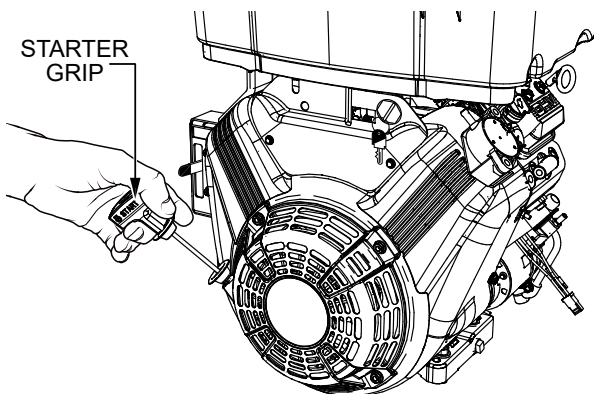

**Figure 17. Ignition Key (START)**
5. Insert the engine ignition key (Figure 17) into the ignition switch. Turn the ignition key to the **START** position and hold it until the engine starts. Release the key when the engine starts, allowing it to return to the **ON** position.